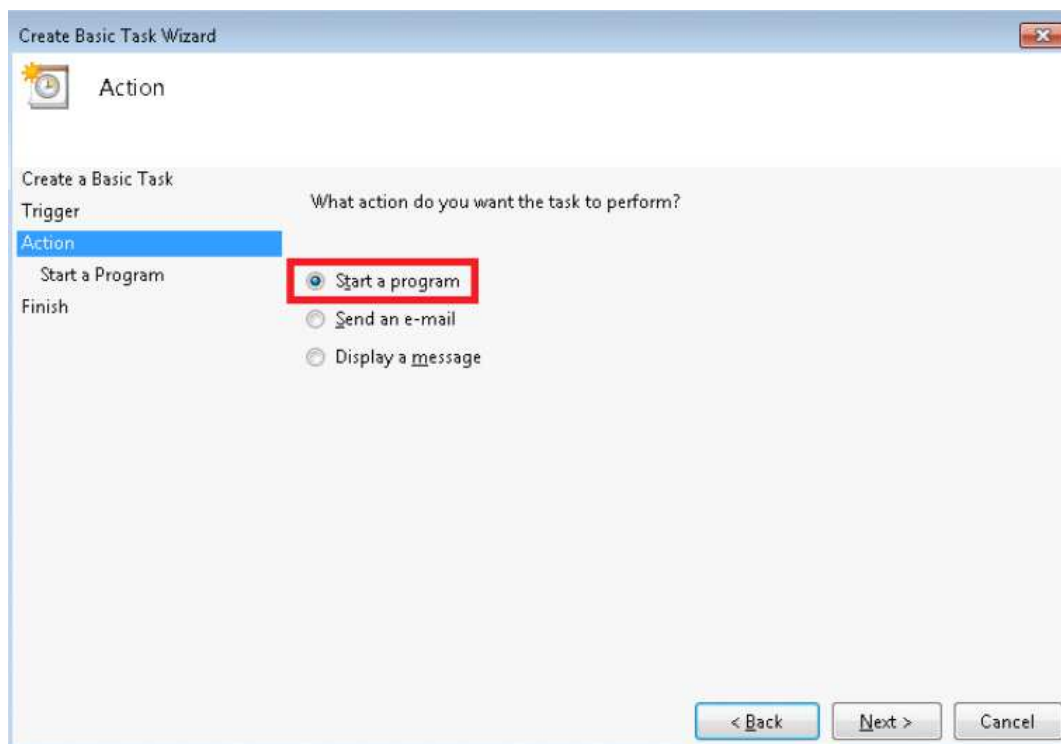

Fig. C.36: Action window
STEP 5 – In *Create Basic Task Wizard* window please choose *Start a program* option in the *Action* panel and then click *Next* (Fig. C.36).